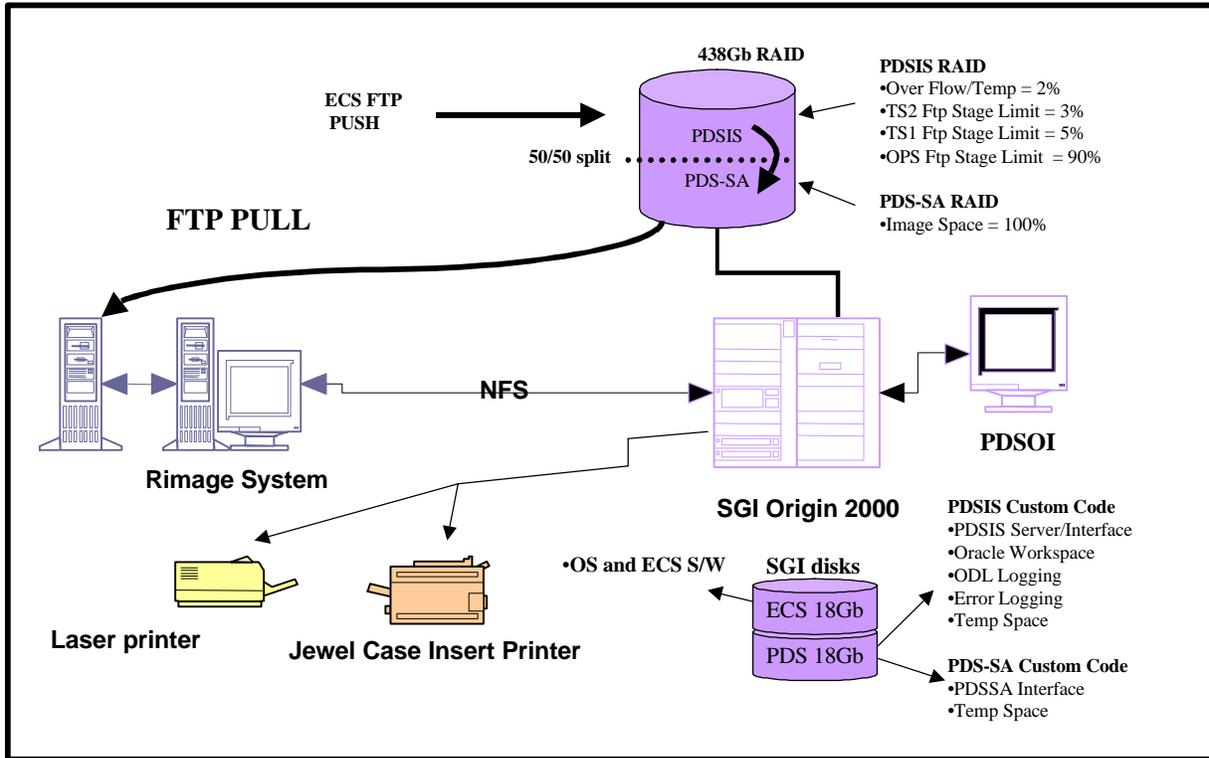

Figure 19. ECS PDS System Architecture and Workspace
ECS PDS system architecture and workspace are shown in Figure 19.
- 8mm (not shown in Figure 19).
- DLT (not shown in Figure 19).
- Label printer (not shown in Figure 19).
- Shipping label printer (not shown in Figure 19).